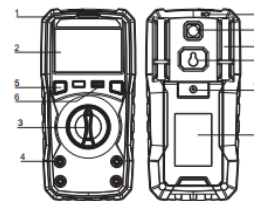

Figure 1
6. Appearance structure (Figure 1)